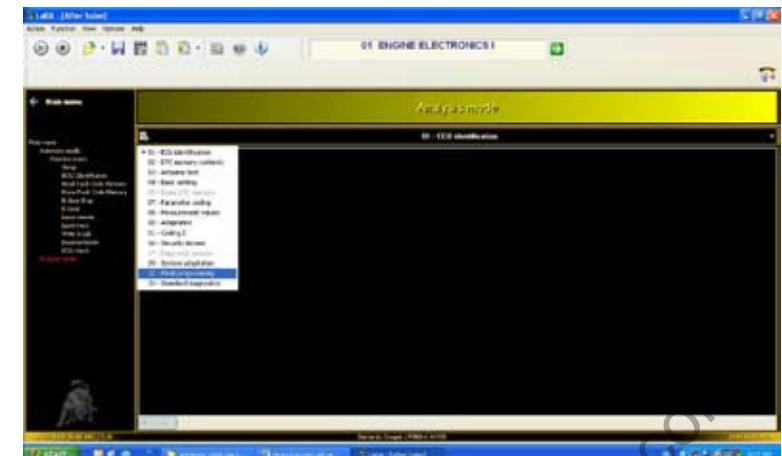

Fig.106
4. If the result is "NOK", you will return to LaRa-AS in "Analysis Mode". Select one control unit at a time and start the "32 flash programming" (Fig.106).
4. If the result is "NOK", you will return to LaRa-AS in "Analysis Mode". Select the E-Gear control unit and start the "32 flash programming" (Fig.106).